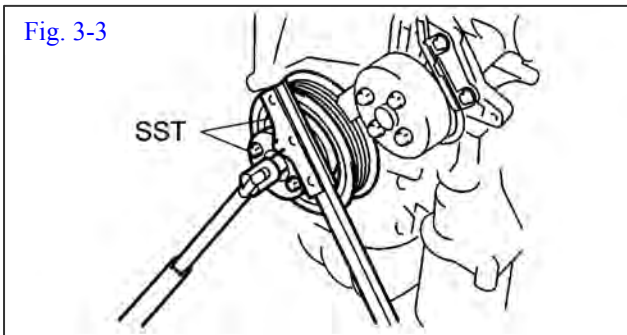

Fig. 3-3
- (c) Remove factory crankshaft pulley bolt. Utilize **SST 09213-54015-01 and 09330-00021**. (Fig. 3-3). **CAUTION:** be careful not to damage OE power steering hard line when working with crankshaft pulley. See arrow in Fig. (3-4).